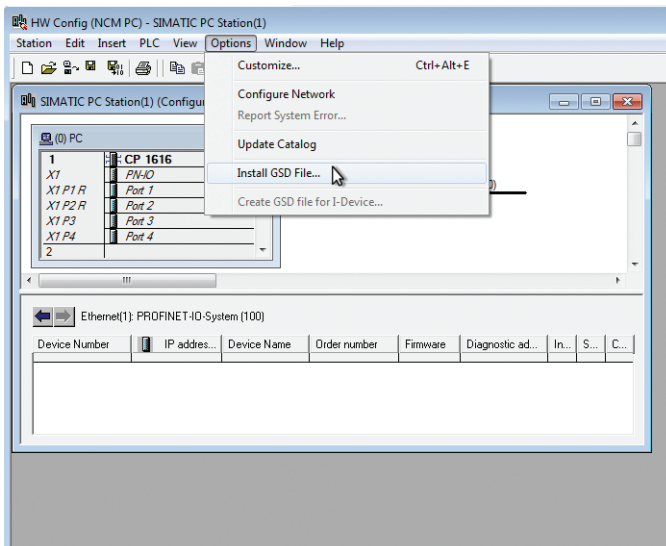

Fig. 34: HW Config (source: Siemens)
- For this purpose, select the following options in window “HW Config” (Fig. 34):